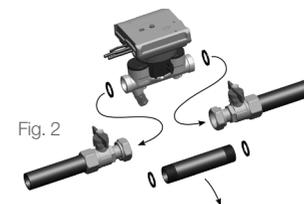

Fig. 2
**INSTALLATION OF A HEAT METER (FIG. 2)**